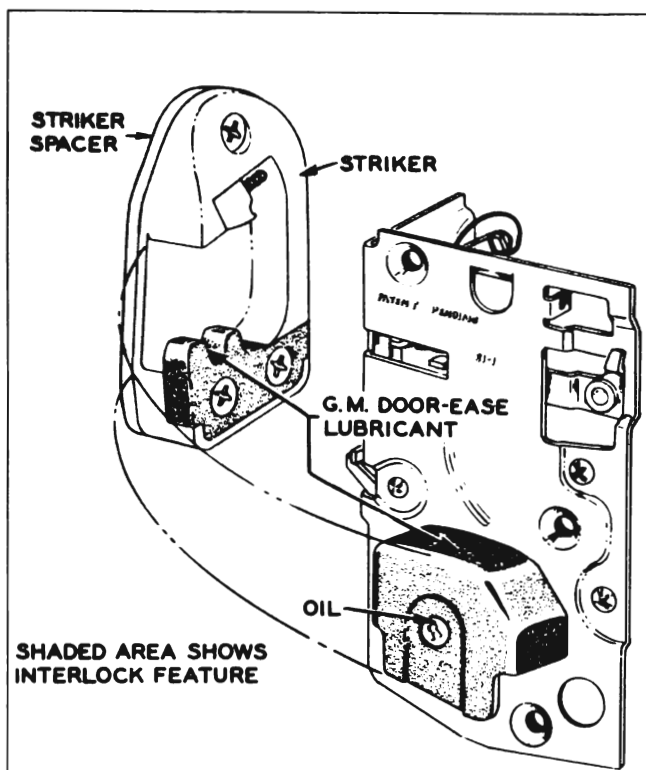

Figure 1-8—Door Lock and Striker—Series 40-60 and Models 53-73
2. *Door Locks and Strikers—Series 40-60.* Remove dirt and old lubricant from door locks and strikers. Apply one or two drops of SAE 10 engine oil to lock roller pins, and apply a light coat of G.M. Door-Ease Lubricant to top surface of lock roller housings and to teeth in strikers. Wipe off excessive lubricant. See figure 1-8.